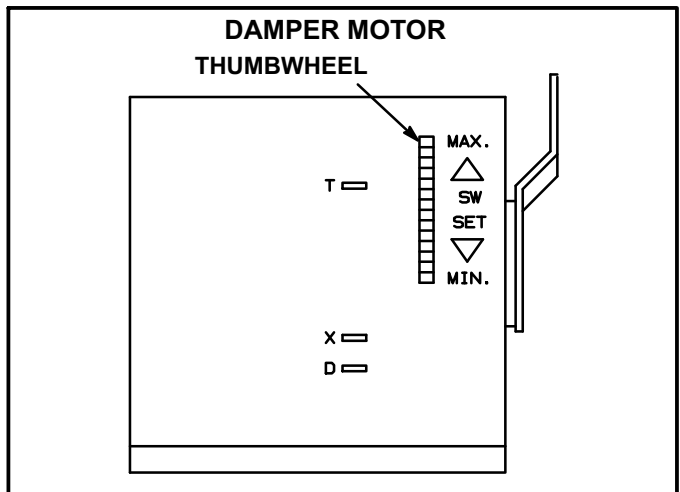

FIGURE 26
- 7- If fresh air percentage is less than desired, adjust thumbwheel higher. If fresh air percentage is more than desired, adjust thumbwheel lower. Repeat steps until calculation reads desired fresh air percentage. See figure 26.
Set damper minimum position in the same manner as economizer minimum position. Adjust motorized damper position using the thumbwheel on the damper motor. See figure 26. Manual damper fresh air intake percentage can be determined in the same manner.